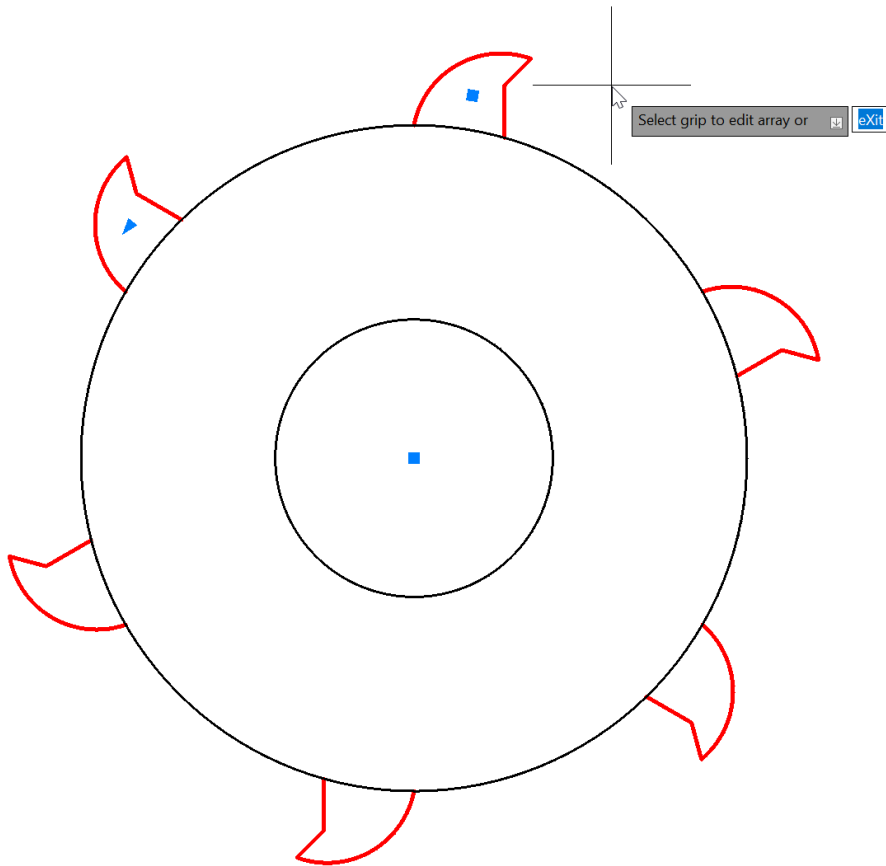

Figure 6.18: The default polar array with six saw teeth
6. Upon clicking on the **Center** object snap, you will see the ribbon update to the contextual **Array Creation** tab, and the prompt change to **Select grip to edit array or**. You will also see that AutoCAD has automatically displayed *six* saw teeth, including the original, as shown in *Figure 6.18*.